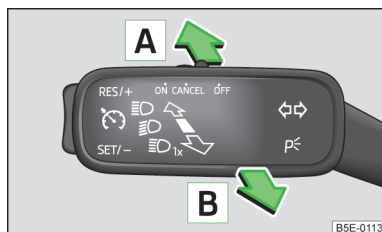

Fig. 31
- Place the lever in position **A** (spring-tensioned position) » Fig. 31.
- If the headlight is currently switched on automatically, move the lever into position **B** (spring-tensioned position) » Fig. 31.